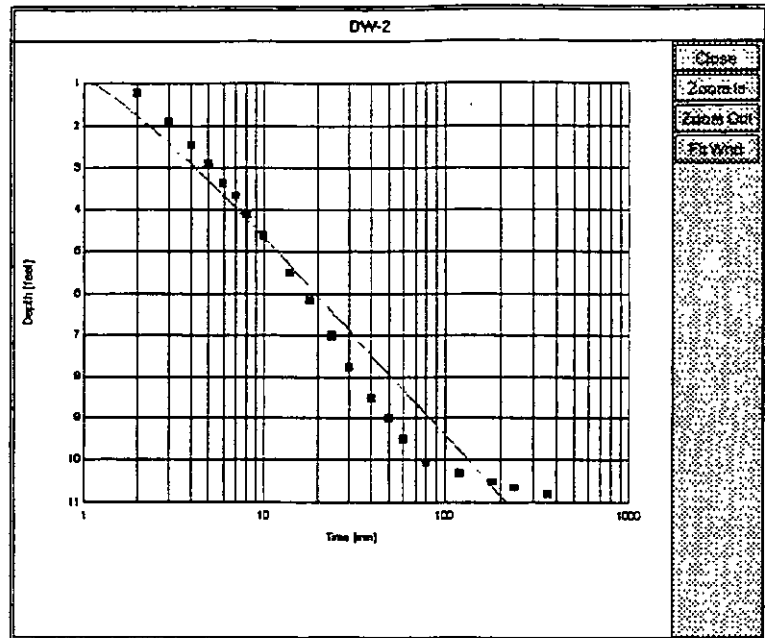

Figure 9-18
16. Select **Display**. Select **Log-Lin Diagram**. The fitted curve is as shown in Figure 9-18. Not too good!